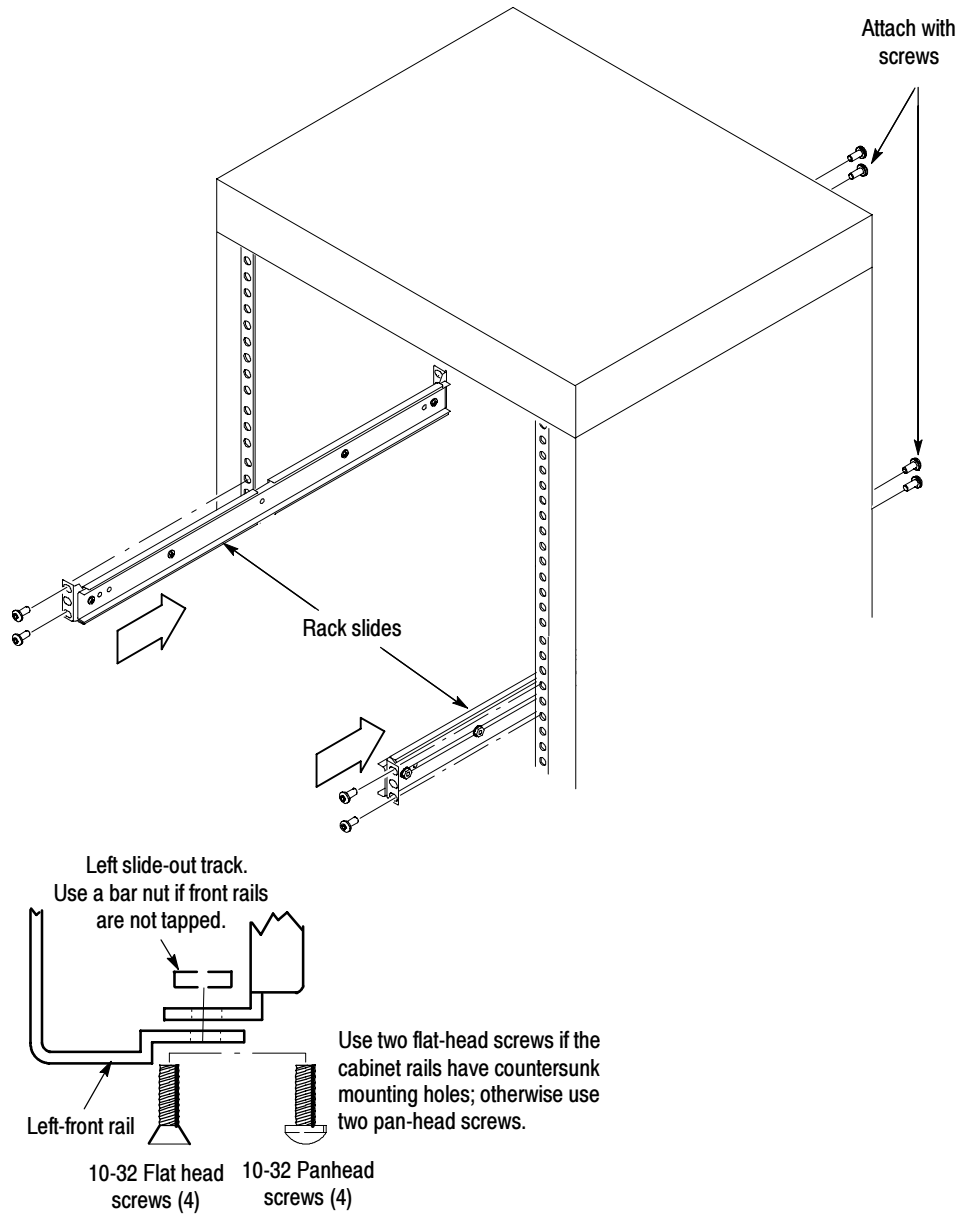

Figure 6: Installing the rail slides
2. Attach the rack slides to your equipment rack. See Figure 6.